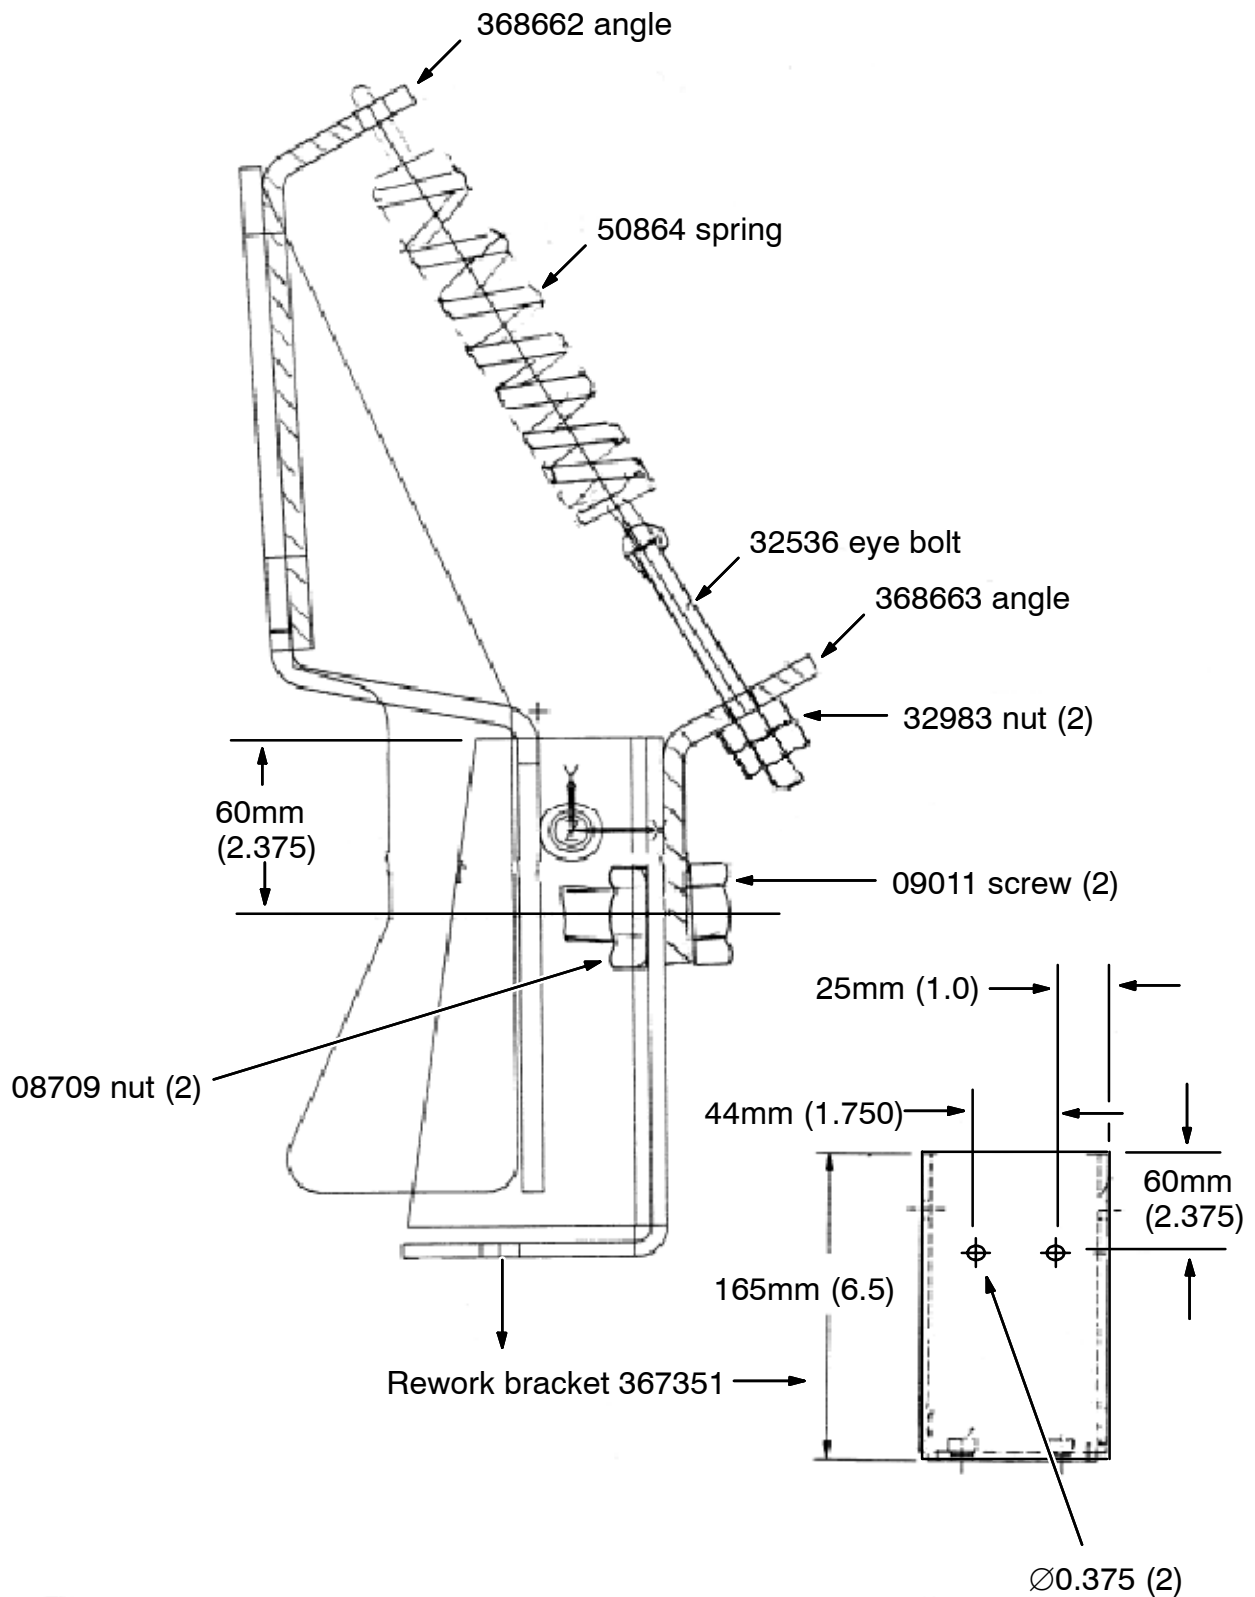

FIG. 2 - Hopper Support Installation
2. Remove the two outside bolts and washers securing the hinge to the hopper on the right hand side of the machine. Mount the angle (1) to the outside of the right side hinge using the hinge mounting hardware.
3. Using the dimensions shown in figure 2, and the smaller angle (2) as a template, mark and drill two 3/8 mounting holes in the right side hinge mounting bracket. (Refer to FIG 1 and 2).
4. Mount the smaller angle (2) to the hinge mounting bracket with two M08 hex screws (5), washers (3) and M08 lock nuts (6). (Refer to FIG 2).
5. Install the eye bolt (8) in the hole in the top of the smaller angle (2). Secure the eye bolt (8) in place with two lock nuts (6). (Refer to FIG 2)
6. Connect one end of the tension spring (7) to the large angle (1) mounted against the right hinge. (Refer to FIG 2)
7. Connect the other end of the tension spring (7) to the hole in the top of the eye bolt (8). (Refer to FIG 2)
8. Adjust the spring (7) tension with the eye bolt (8) and hex nuts (6). Secure the hex nuts (6) after the eye bolt is in the desired position.